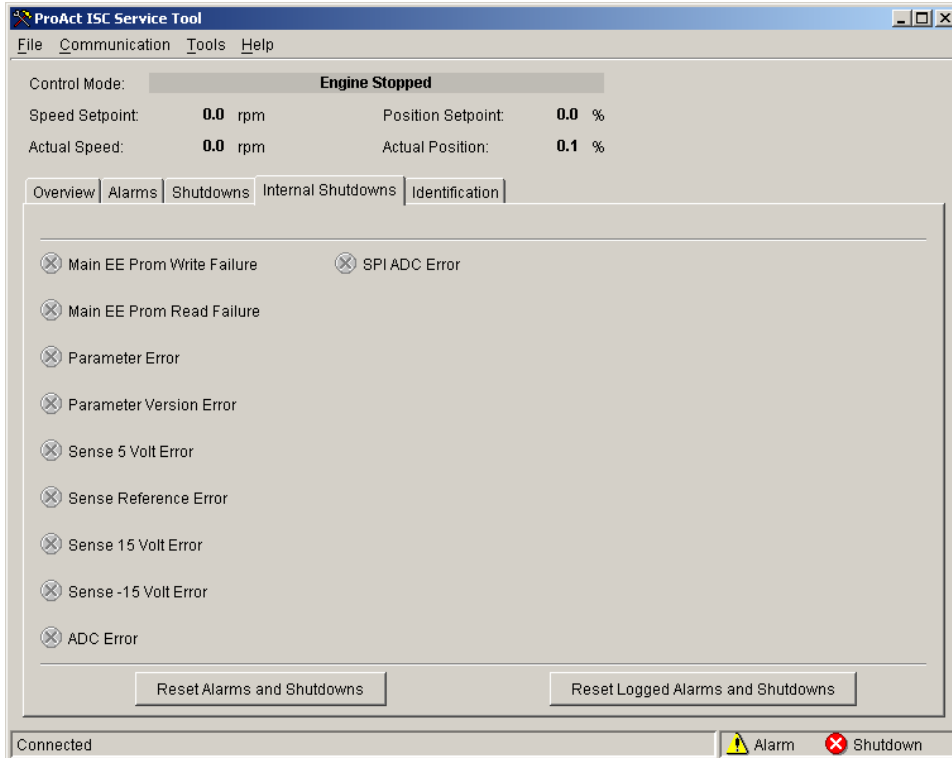

Figure 4-6. Service Tool—Internal Shuttdowns Tab
- Internal Shutdowns, (see Figure 4-6)